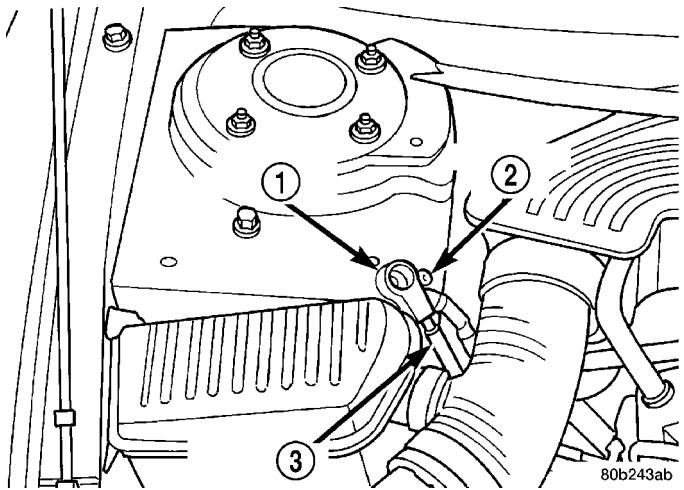

Fig. 101 Correctly Isolated Remote Ground Cable
- (1) Remove remote ground cable from ground stud on shock tower. Then correctly isolate ground cable from vehicle by installing isolator on stud (Fig. 101).